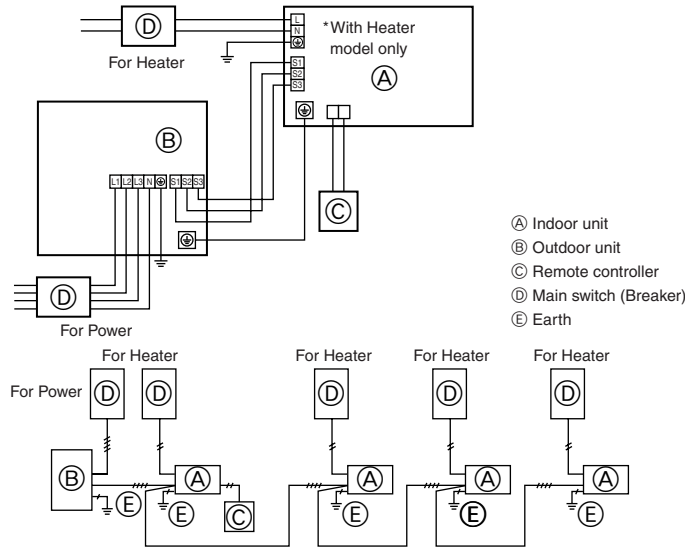
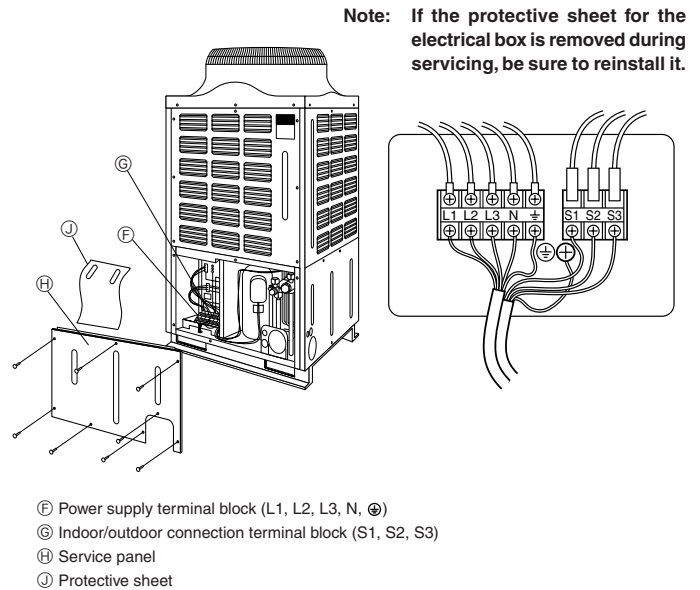

Fig. 7-1
Fig. 7-2
7.1. Outdoor unit (Fig. 7-1, Fig. 7-2)
- (1) Remove the service panel.
- (2) Wire the cables referring to the Fig. 7-1 and the Fig. 7-2.